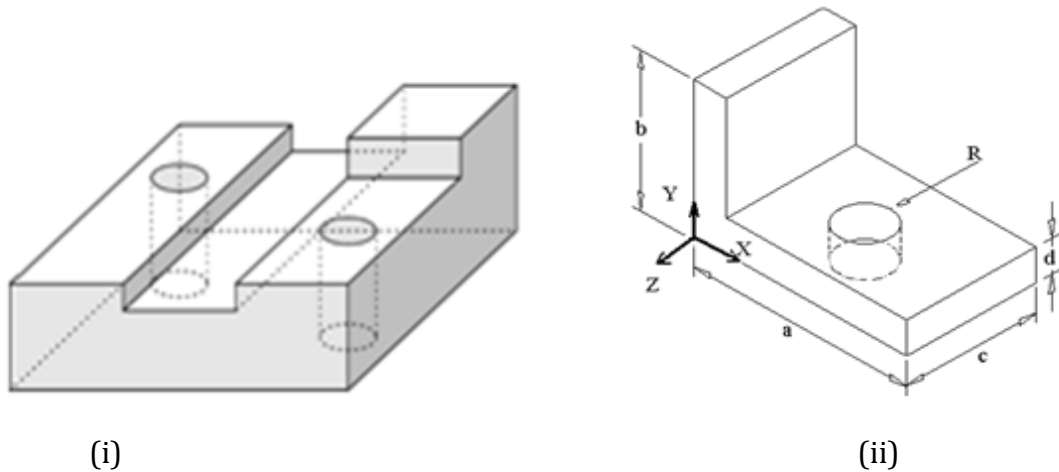

Figure QU3
- (c) Create the CSG models of the two solids represented in Figure QU3, below. [18]